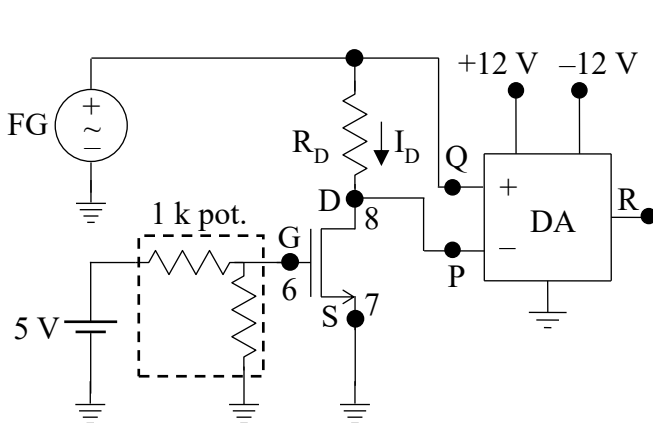
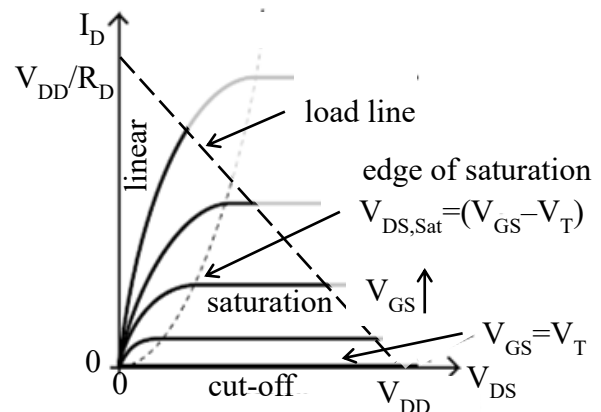

Figure E1a
Figure E1b: Output Characteristic of NMOS
- Wire the circuit shown in Fig. E1a with  $R_D = 1\text{ k}\Omega$ . The pin numbers for CD4007 are given in the figure.
- The maximum range of  $V_{DS}$  for the circuit shown in Fig. E1a will lie on the load line as shown in Fig. E1b.